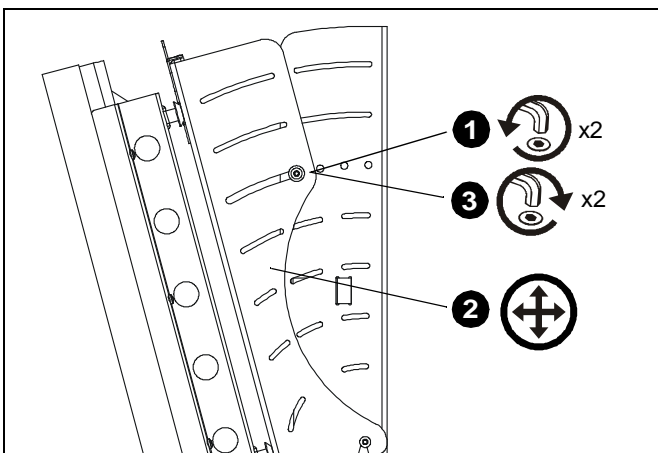

Figure 10
- Using key (F), *slightly* loosen upper front plate attach screws (See Figure 10). Do NOT remove screws!
- Using key (F), *slightly* loosen the upper front plate attach screws (See Figure 10). Do NOT remove screws.